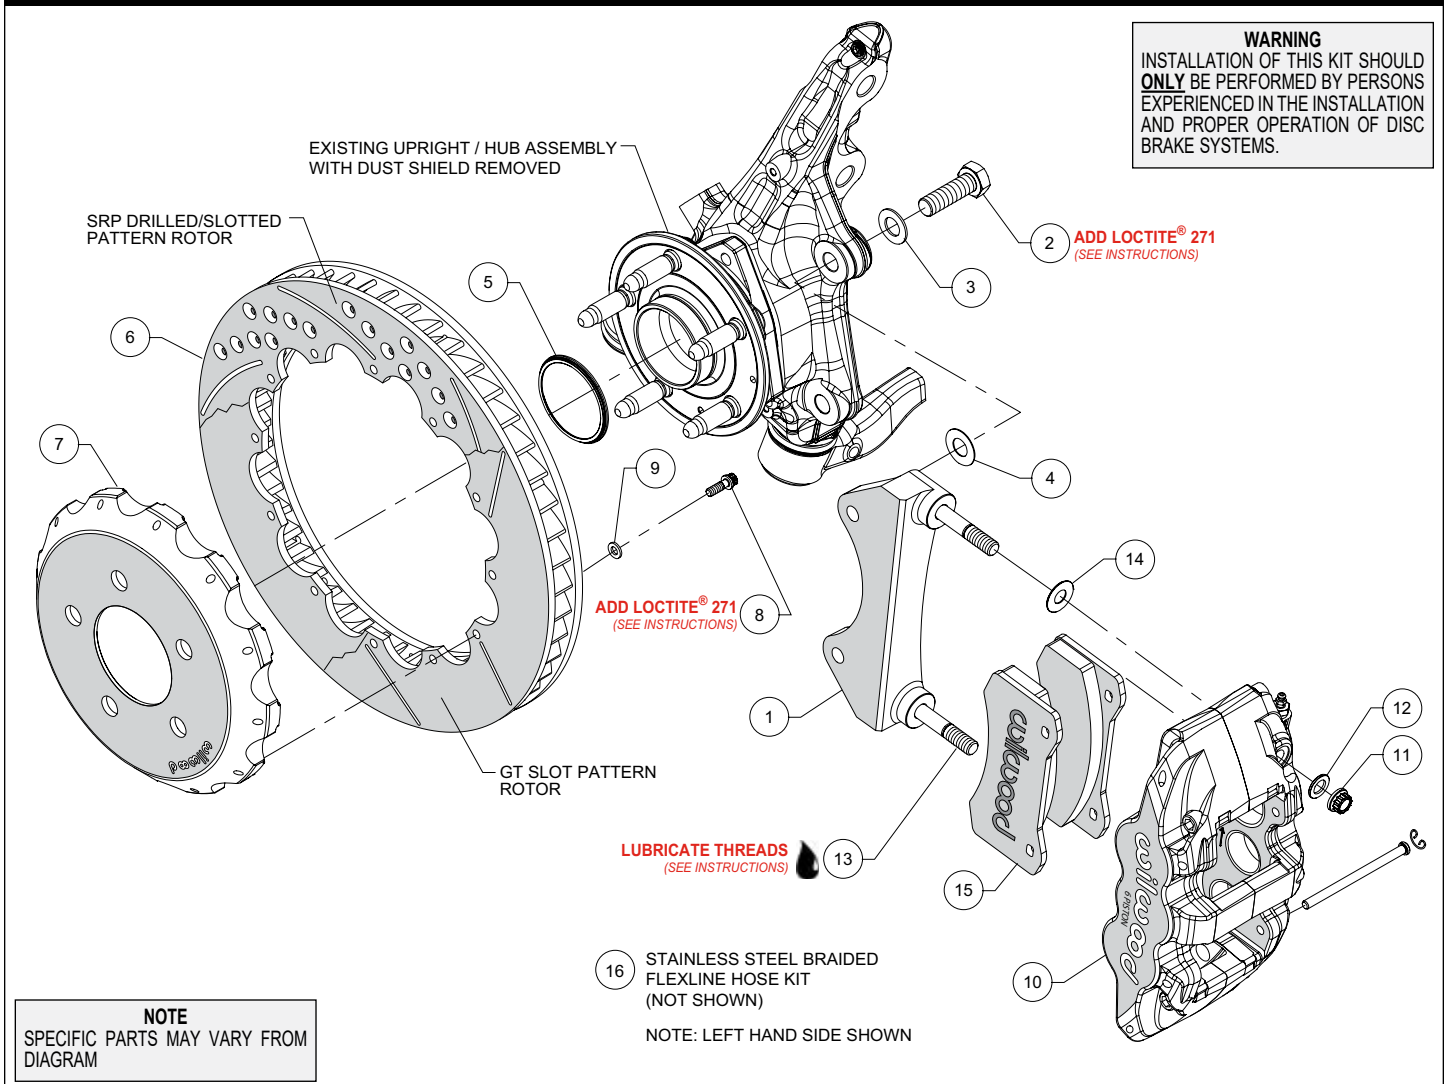
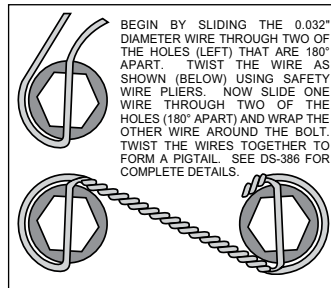

Figure 1. Typical Installation Configuration
Figure 3. Safety Wire Diagram
Assembly Instructions (numbers in parenthesis refer to the parts list and Figure 1 on the preceding pages):
- The caliper mount bracket (1) should initially be installed with clean, dry threads on the mounting bolts. Orient the bracket as shown in Figure 1, and Photo 1 and install using bolts (2) and washers (3). Initially place one .029" thick shim (4) on each bolt between the bracket and upright, Figure 1. Temporarily tighten the mounting bolts. **NOTE: The bracket must fit squarely against the mount bosses on the upright.** Inspect for interference from casting irregularities, machining ridges, burrs, etc. Later, after the caliper alignment has been checked, the mount bolts will be secured using red *Loctite*® 271.
- Orient the rotor (6) and the hat (7) as shown in Figure 1 and Photo 2. Attach rotor to hat using bolts (8) and washers (9). Apply red *Loctite*® 271 to the bolt threads and torque to 155 in-lb using a criss-cross pattern. For an added measure of security, the bolts may be safety wired using standard 0.032 inch diameter stainless steel safety wire as shown in Figure 3. Please refer to Wilwood's data sheet DS-386 (available at www.wilwood.com/Pdf/DataSheets/ds386.pdf) for complete safety wire installation instructions.
- **NOTE: This kit contains distinct right and left hand calipers that must be mounted in a specific direction, as described below.** Lubricate the caliper mounting studs (13) with lightweight oil. Initially place one .030" thick shim (14) on each stud as shown in Figure 1 and Photo 5. Mount the caliper (10) onto the bracket (1) using lock nuts (11) and washers (12), Figure 1. Ensure that the caliper is mounted so that the largest pistons are at the rotor exit end of the caliper, in relation to the direction of rotor rotation. Temporarily tighten the lock nuts and view the rotor through the top opening of the caliper. The rotor should be centered in the caliper, Photo 6. If not, adjust by adding or subtracting shims (4) between the bracket and the upright. Always use the same amount of shims on each of the two mounting bolts. Once the caliper alignment is correct, remove the bracket mounting bolts (2) one at a time, apply red *Loctite*® 271 to the threads, and torque to 105 ft-lb.
- Remove the two pad retaining pins from the caliper (10) by carefully popping out the pin retaining clips and sliding out the pins. Insert the brake pads (15) into the caliper from the bottom, Figure 1 and Photo 7. With the friction material facing the rotor, secure the brake pads in place with the pad retaining pins and clips, Photo 8. Reinstall the caliper onto the caliper mounting bracket and temporarily tighten the lock nuts. Check that the top of the brake pad is flush with the outside diameter of the rotor, Photo 9. If not, adjust by adding or subtracting shims (14) between the caliper and the bracket. After the caliper pad height is set, torque the caliper lock nuts (11) to 47 ft-lb.